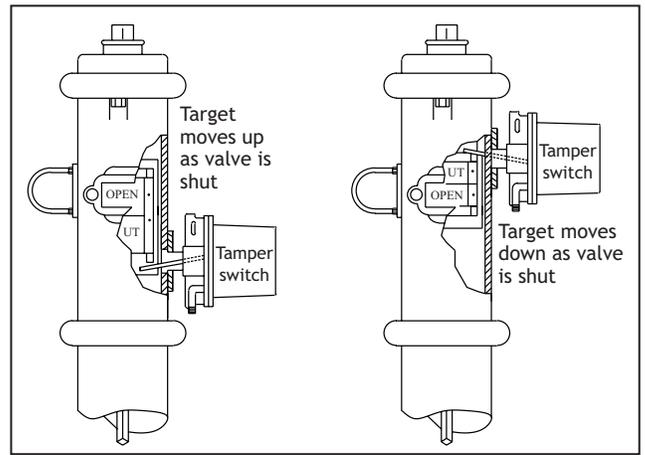

Figure 2: Target Moves As Valve is Shut
3. If the target assembly moved up as the valve was closed, measure the distance from the bottom of the head to the lower part of the target assembly that contacts the trip rod of the PCVS (see Fig. 2). This is usually a plate or bar on the target assembly, on a side adjacent to the "OPEN/SHUT" plates. Subtract 1/8" from the measurement. If the target moved down as the valve was closed, measure the distance from the bottom of the head to the upper portion of the target assembly that contacts the trip rod of the PCVS (see Fig. 2). Add 1/8" to this measurement.